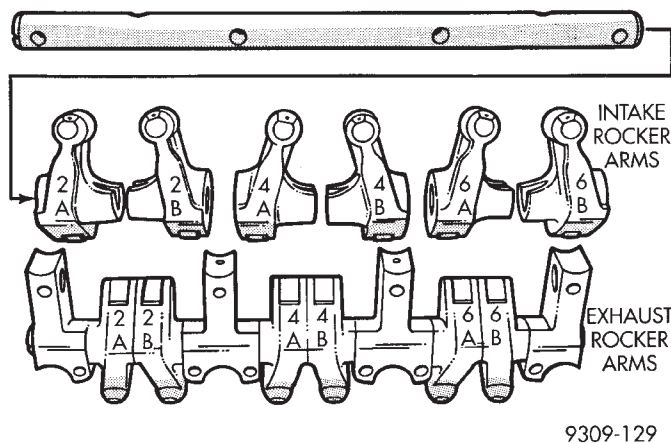

Fig. 6 Rocker Arms and Shaft Identification
(1) Remove valve covers. Refer to procedure outlined in this section.
(2) Identify the rocker arm assembly and rocker arms before disassembly (Fig. 6).
(3) Remove rocker arm assembly bolts.
The intake and exhaust rocker arms are different. They should be identified before disassembling the assembly (Fig. 6).